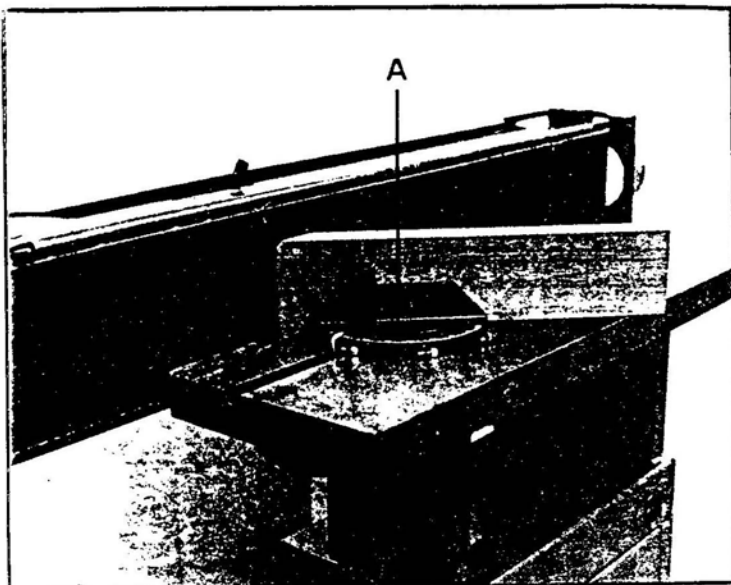

Fig: 5
1. MITER GAUGE (A) CAN BE ADJUSTED $45^{\circ} - 90^{\circ}$ AND CLAMPED BY HEX. HANDLE (B), SEE FIG. 5
2. ADJUST MITER GAUGE (A) TO GET REQUIRED ANGLE GAUGE.